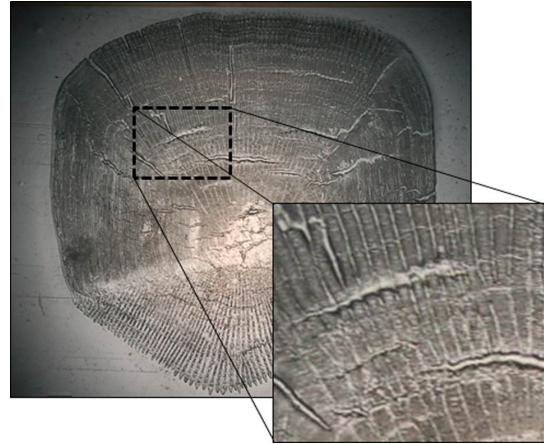

Figure 12: Striped Bass scale impression damaged from too much heat during pressing.
3. The scale is deteriorated by excessive heat and/or pressure(Figure 12);